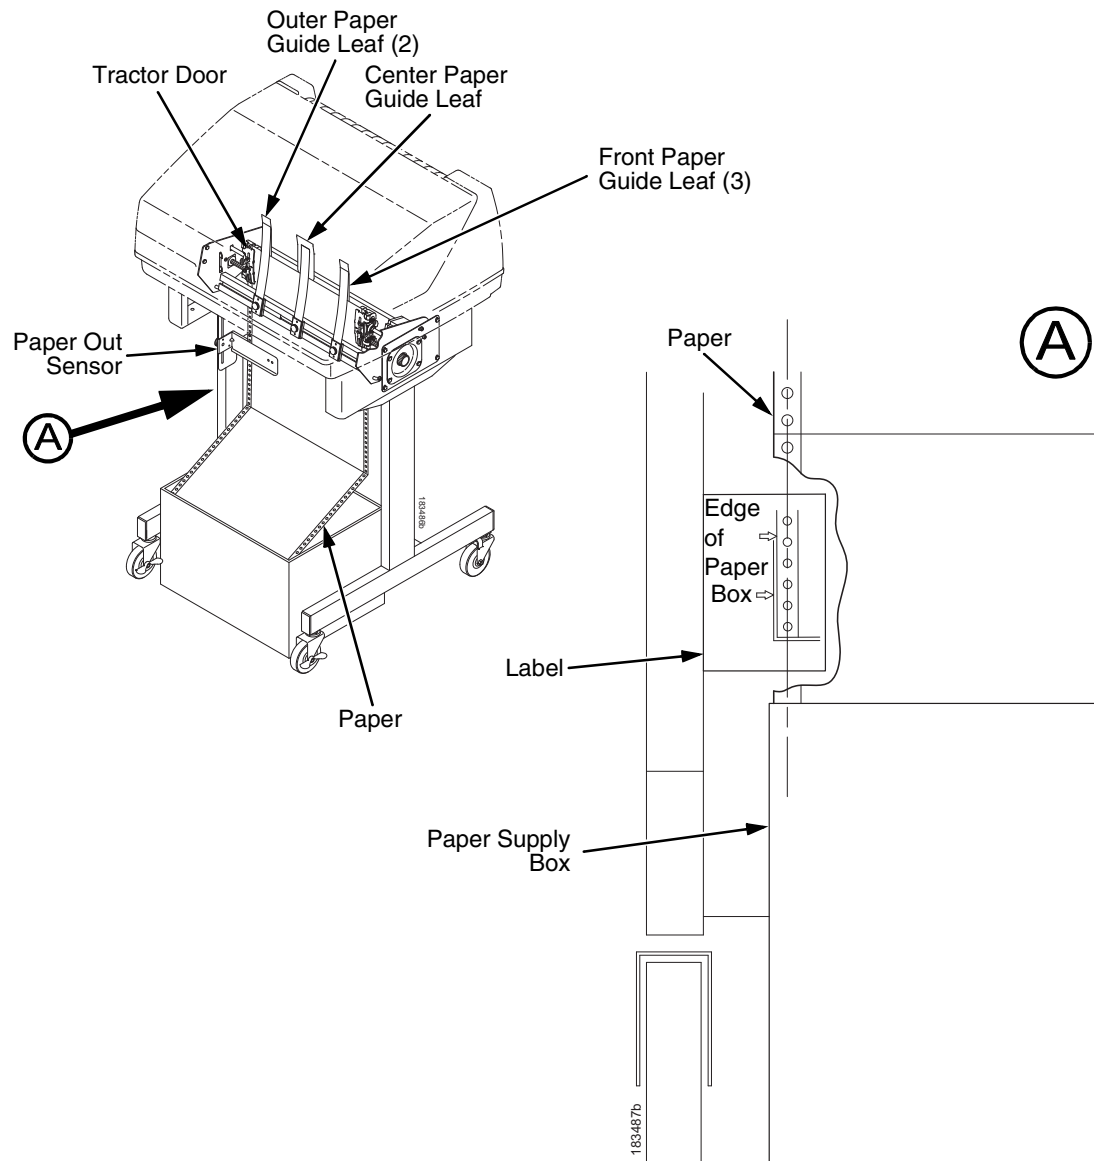
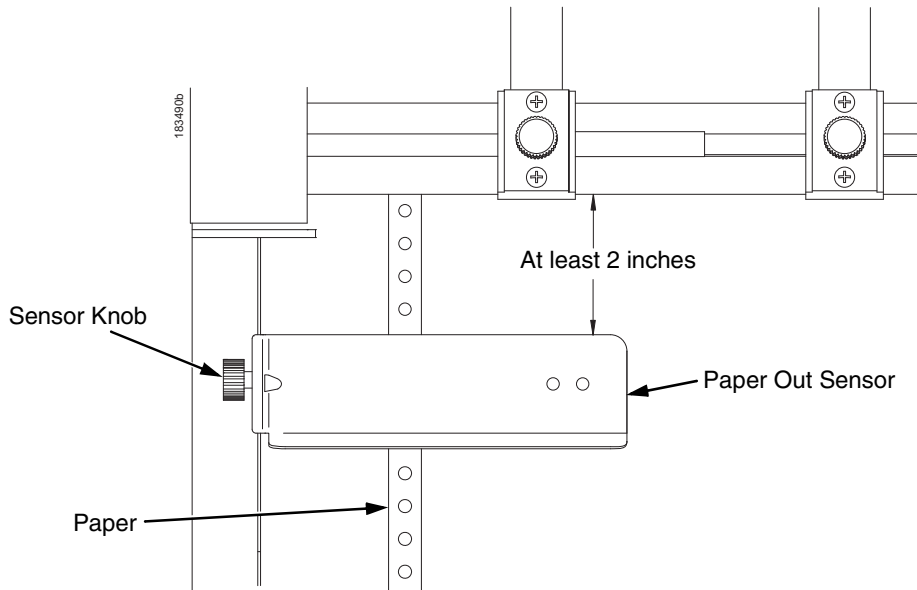

Figure 29. Loading Paper Onto The Printer
Figure 32. The Paper Out Sensor
1. Align the paper supply box with the label on the bottom left side of the modesty panel. (See Figure 29 on page 250.)
The paper out sensor indicates when the printer runs out of paper. (The sensor does not work with black backed forms.) Unlike the standard pedestal printer, the ZT printer requires you to load the paper through the paper out sensor slot (Figure 29 and Figure 32). Correct positioning of the paper out sensor ensures that the last form the printer prints will be properly presented to the tear bar. To position the paper out sensor, do the following: